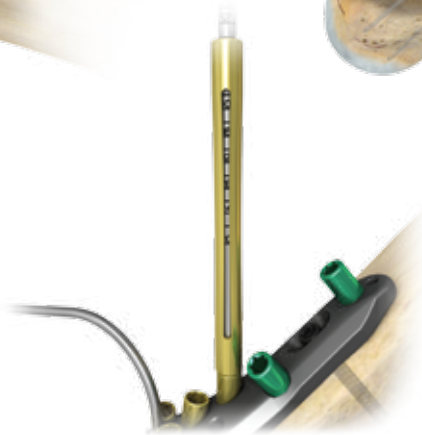

Figure 21
- Read measurement from proximal end of the gold 3.2 mm Drill Sleeve (Figure 21)